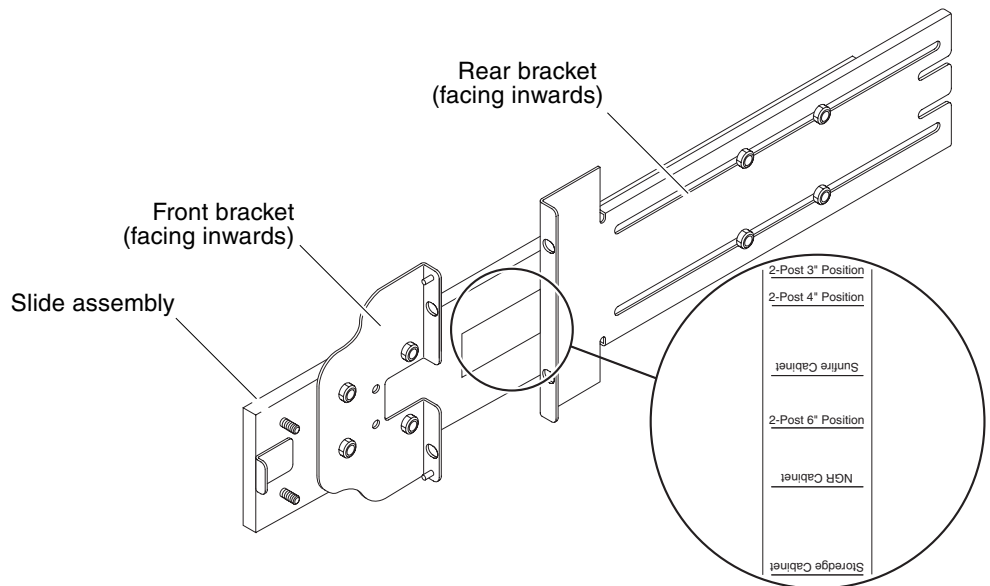

FIGURE 1-2 Rail Assembly (Modified for Two-Post Installation)
For two-post installations, you can dismantle and reassemble the rail assemblies (FIGURE 1-2). The rail assemblies can be adjusted to suit a 19-inch two-post rack that has a post depth in the range of 3 to 6 inches (7.5 to 15.0 cm).
3. Rotate the front bracket 180 degrees and resecure it facing inward (FIGURE 1-2).
5. Rotate the rear bracket 180 degrees so that it faces inward (FIGURE 1-2).